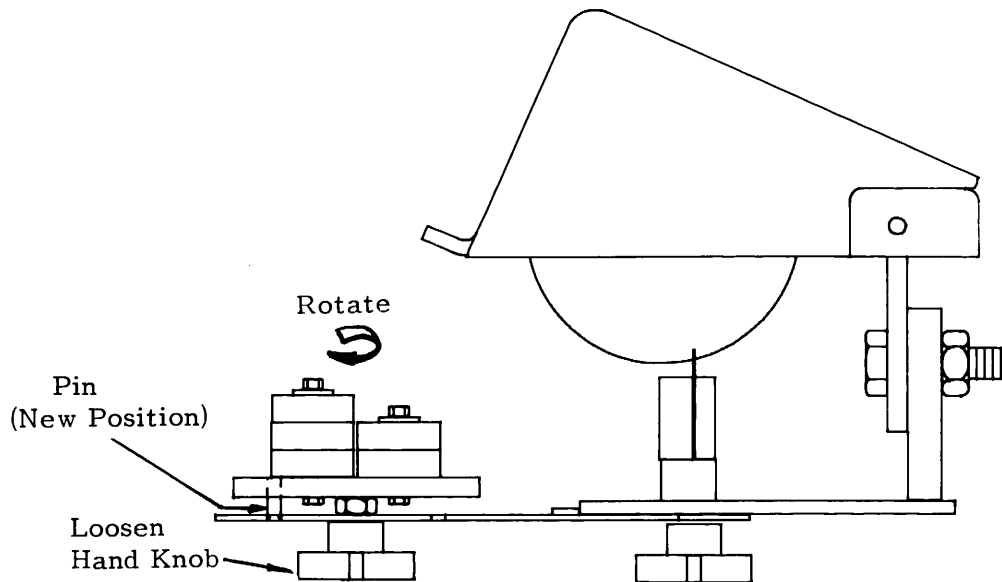

FIGURE 3
- To equalize the other side of the blade, simply lift the blade out of the rollers and loosen the hand knob found on the underside of the equalizer. Lift the pin out of the hole it is currently sitting in and rotate around until it locates in the opposite hole (See **Figure 3**). Re-tighten hand knob and re-insert blade. Follow same steps as before to set second side of the blade.